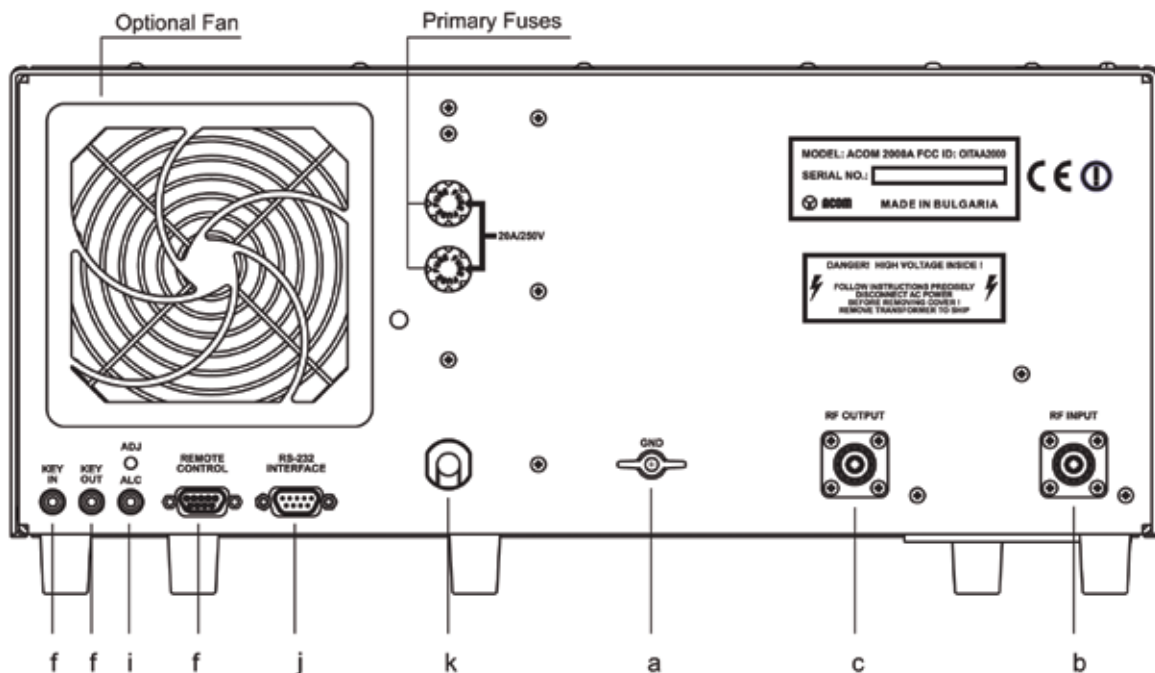
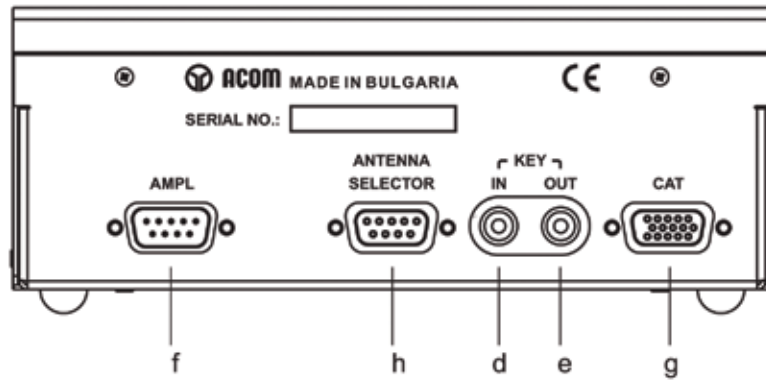
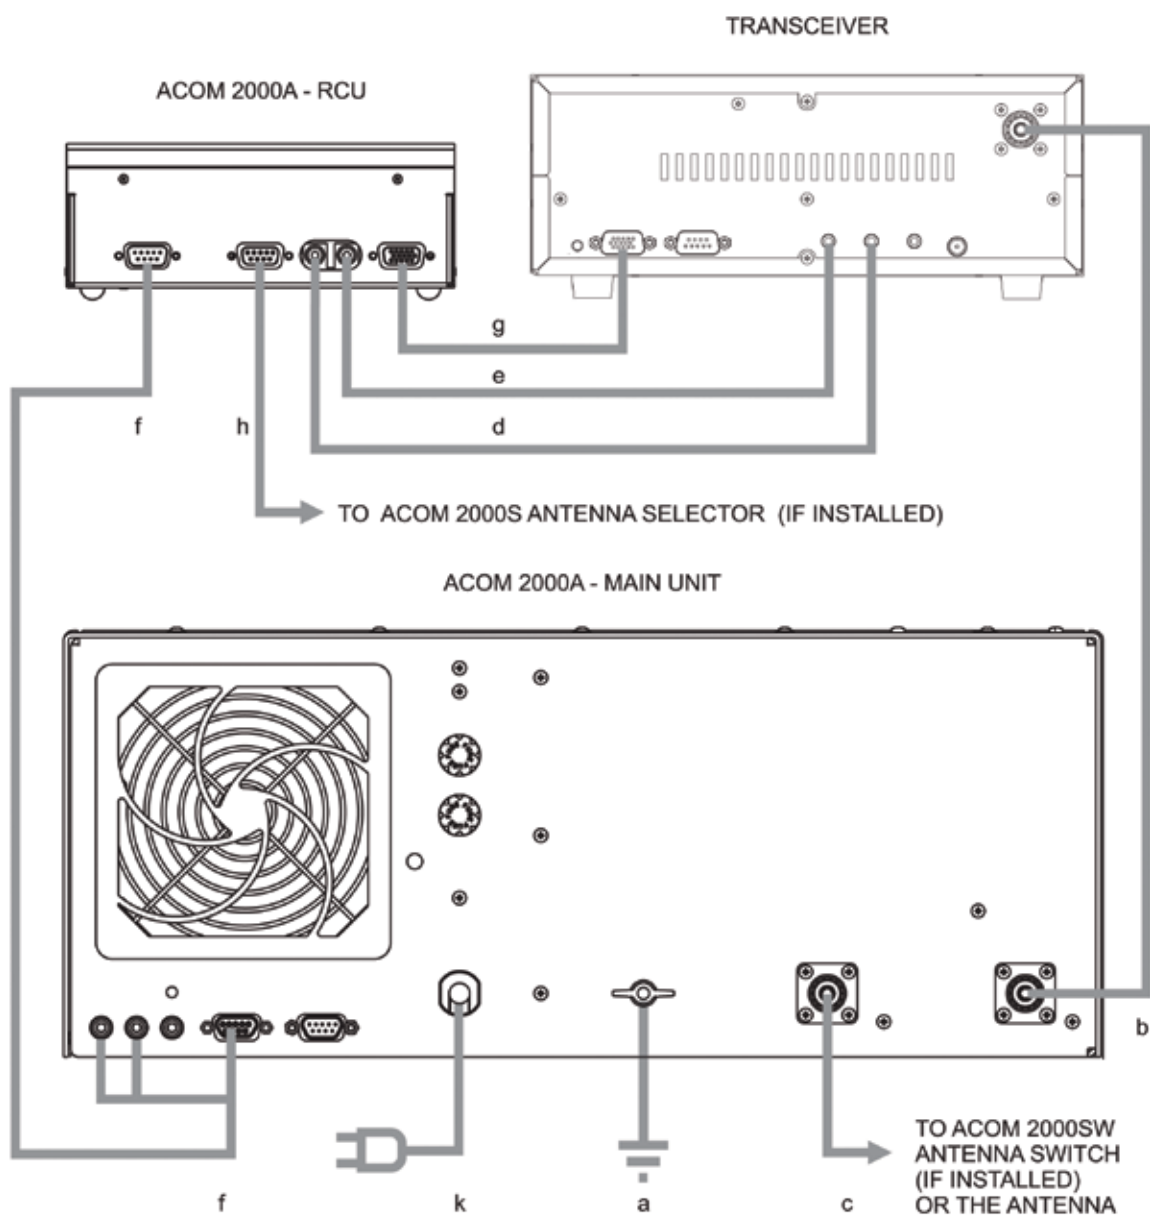

Fig. 2-2 Amplifier Main Unit Connections
Fig.2-3 Amplifier Remote Control Unit Connections
Fig.2-4 Main Unit, RCU, Antenna Selector, and Transceiver connections
- a) Connect the ground stud of the amplifier Main Unit (on the rear panel, marked GND) to the station's grounding system (Fig.2-2, Fig.2-3 & Fig 2-4).
This fan is not necessary in SSB and CW modes, nor in continuous carrier modes (RTTY, SSTV etc.) with carrier down times of maximum 15 minutes and a subsequent pause of 3 minutes. For higher duties the fan is recommended. The auxiliary fan (119x119mm) is supplied as an option with a set of 8 screws, nuts and washers. It may be mounted by the manufacturer or dealer on request (Fig. 2-2). Contact your dealer or see the TECHNICAL SUPPLEMENT for details.